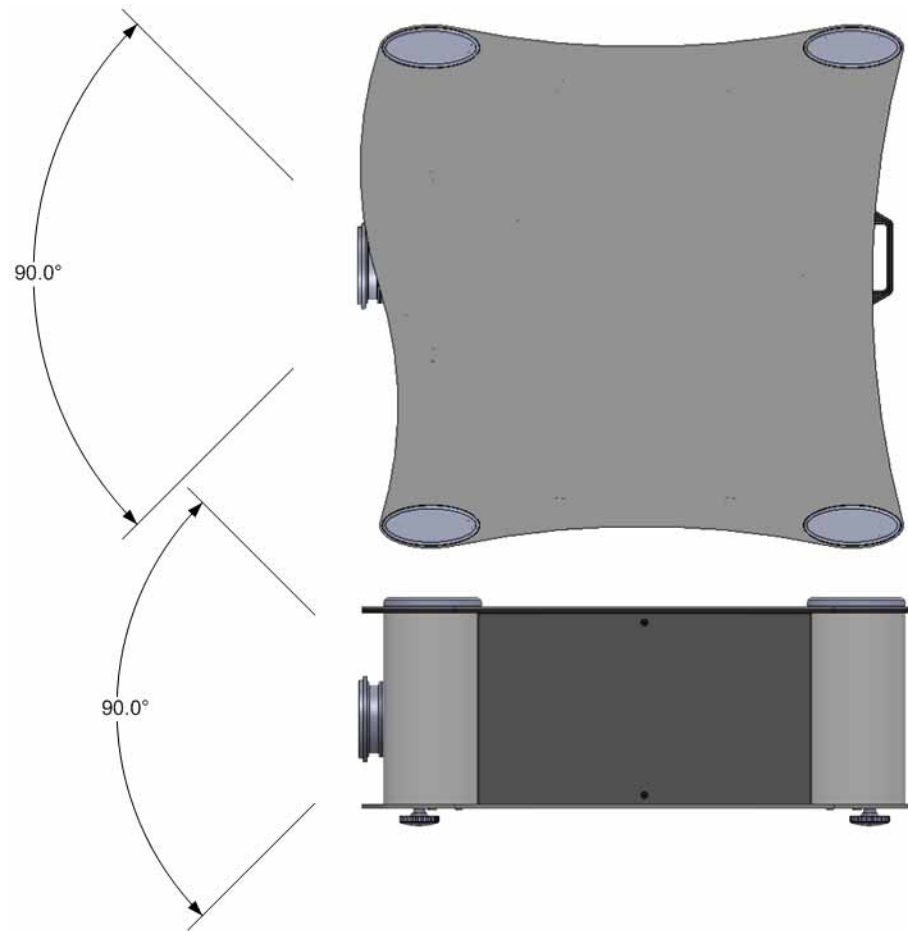

Figure 3-1. IR Reception Angles
- The projector's front IR receivers have a range of approximately 40 feet (12.19 meters). Figure 3-1 shows the reception angles of the IR receivers.